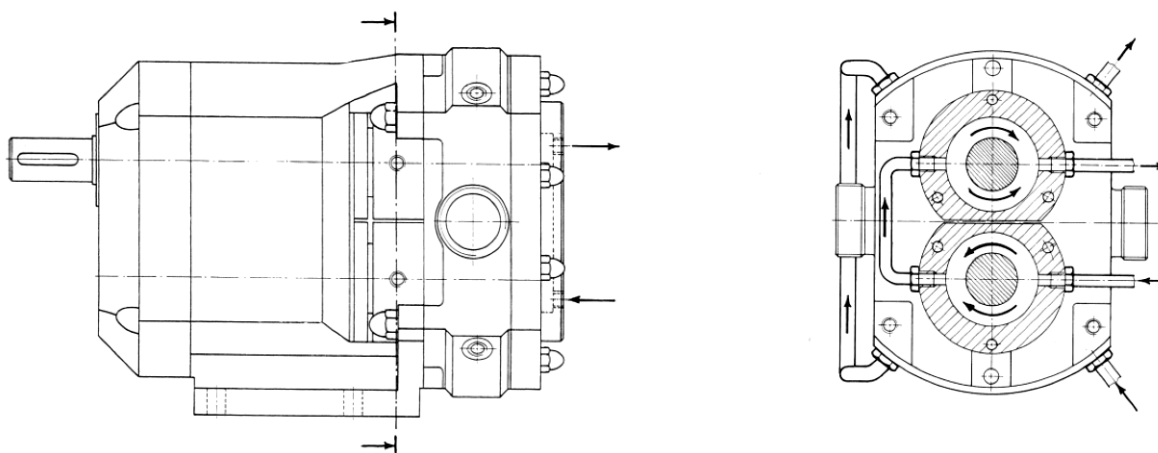

Fig. 9
- 2 - When the mechanical seal is replaced, replace the turning ring (224) and the lip ring (223) of the auxiliary seal too.
- 4 - Check the fluxing is efficient during the pump working, in order not to damage the auxiliary seals (see connection diagram Fig. 9).